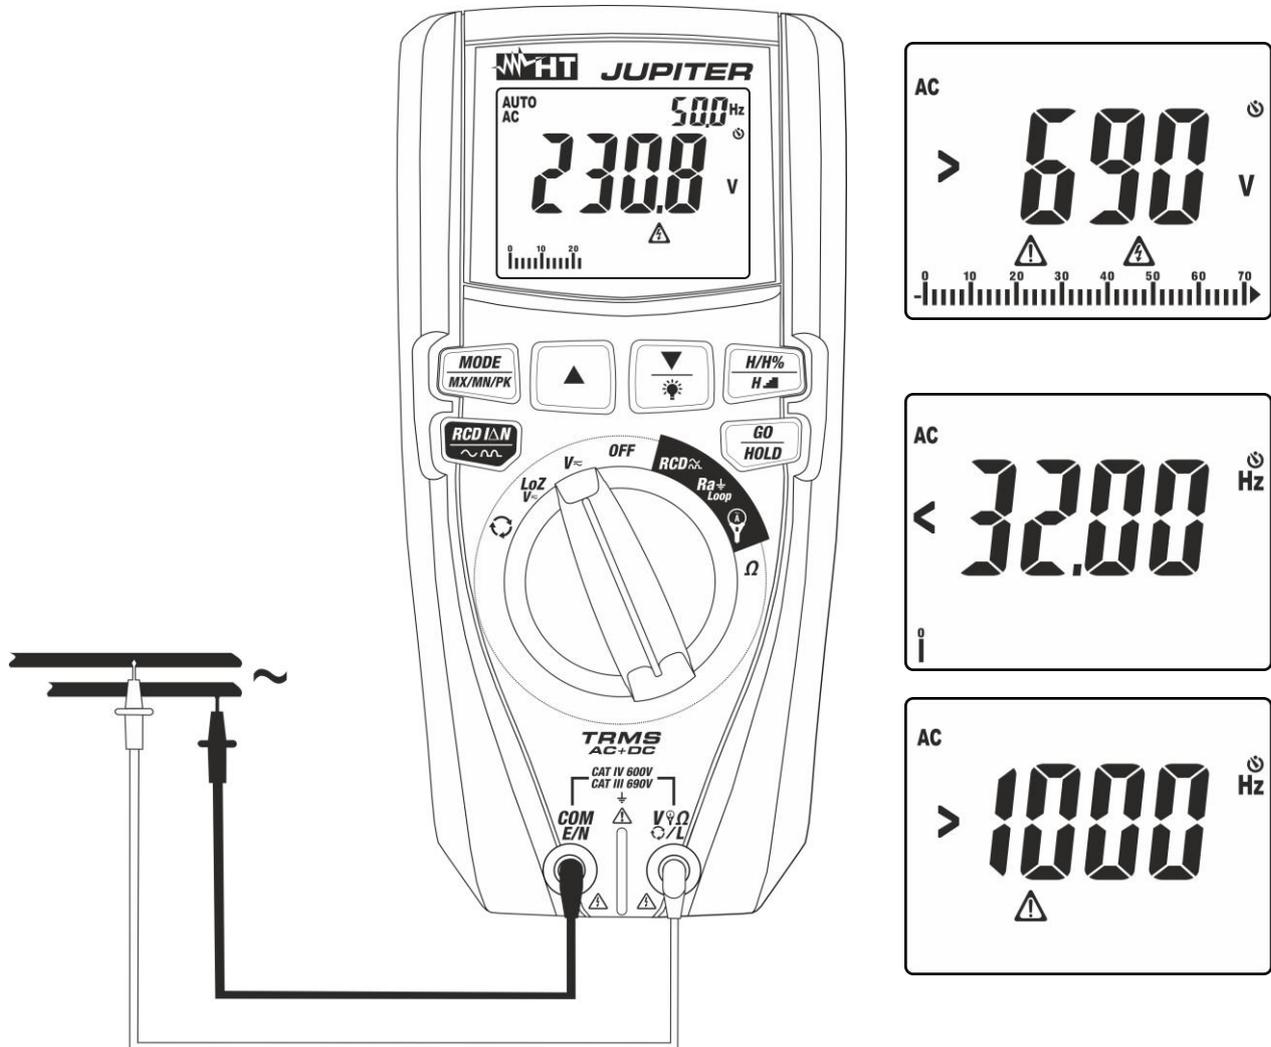

Fig. 9: Use of the instrument for AC voltage measurement
4. Position the red lead and the black lead respectively in the spots of the circuit to be measured (see Fig. 9). The display shows the value of voltage. On the top of the display on the right side, the value of voltage frequency is displayed. Press key **MODE/MX/MN/PK** to display the value of frequency with a higher resolution.
5. If the display shows the message "**>690V**" (see Fig. 9), the maximum measurable value has been reached.
6. If the display shows the messages "**<32Hz**" or "**>1000Hz**" (see Fig. 9), the value of frequency is out of the measuring range **32Hz ÷ 1000Hz**.